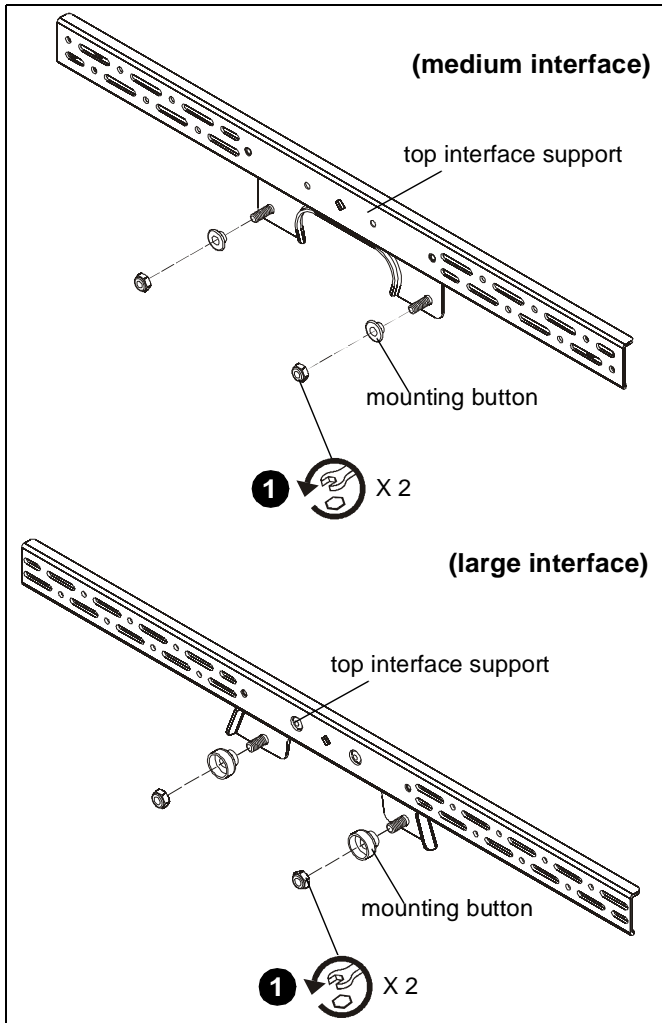

Figure 1
1. Remove two hex nuts and mounting buttons from top interface support of swing arm. (See Figure 1)